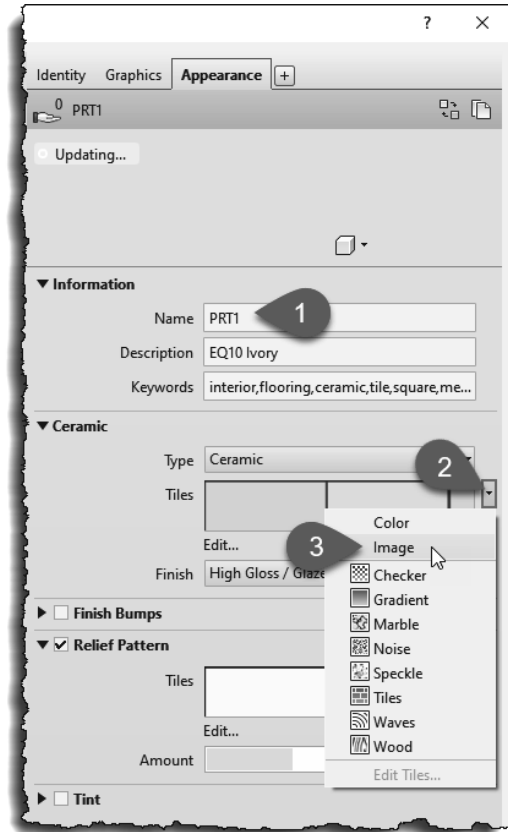

FIGURE 4-4.15 Appearance tab
61. Back in the *Material Browser*, with PRT1 selected, adjust the *Description* as shown in Figure 4-4.15.
62. Select the down-arrow to the right of the *Tiles* preview and select **Image** (Figure 4-4.15).